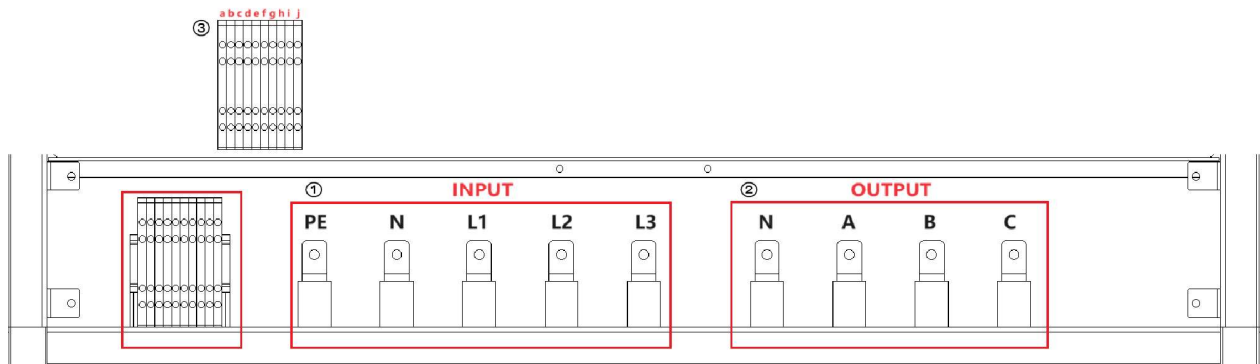

Figure 1-17
The External emergency stop interface is located in the wiring layer inside the power supply-③: c, d (Figure 1-17) .